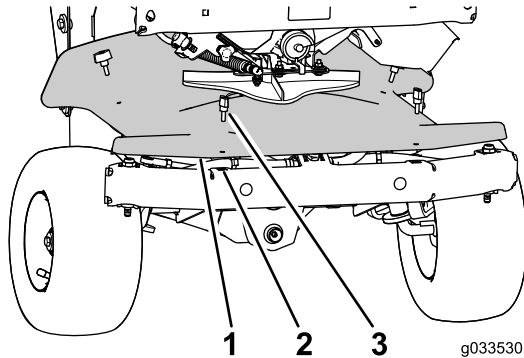

Figure 32
3. Remove the 4 thumbscrews that secure the front cover (below the impeller) to the chassis, and remove the cover (Figure 32).